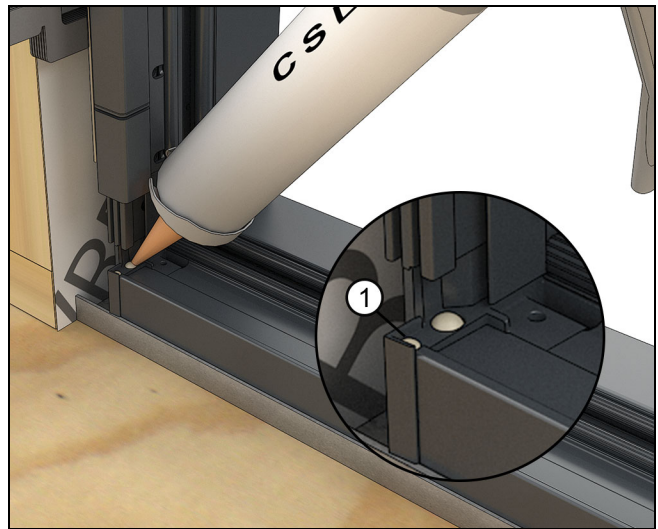

Figure 48 CSL 343
13. Inject the sill. Put a new tip on your sealant gun. Inject the bottom corners of the frame until you see sealant exit the smaller adjacent hole. See Figure 48.